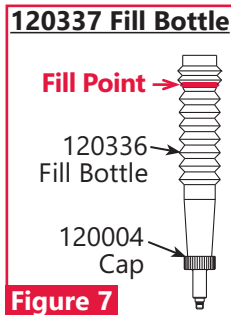

Figure 7
Fill Bottle Assembly, p/n 120337, included with tool (Figure 7)
Add an approved hydraulic fluid to the fill point of the Fill Bottle. (Figure 7)
10. Unlock the Fill Tool and check the fluid level (Red line indicator, Figure 7) in the reservoir housing. Cycle the tool with the stall nut attached and the retaining nut locked in the full-forward position ("dead stall"). The fluid level should not drop below the red line on the reservoir housing. **NOTE: If the stall nut was not used, Dead Stalling is not necessary; just cycle tool.**